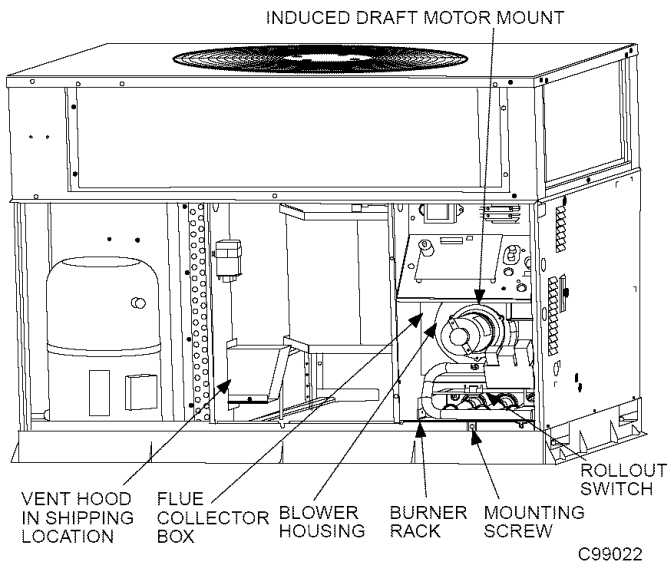

Fig. 30—Blower Housing and Flue Collector Box
2. Remove the 3 screws holding the blower housing to the flue collector box cover (see Fig. 30).
3. Remove the 12 screws holding the flue collector box cover (Fig. 30) to the heat exchanger assembly. Inspect the heat exchangers.
2. Remove the 7 screws that attach induced-draft motor mounting plate to blower housing (See Fig. 30).
7. Remove the mounting screw that attaches the burner rack to the basepan (See Fig. 30).
8. Slide the burner rack out of the unit (See Figs. 30 and 32).